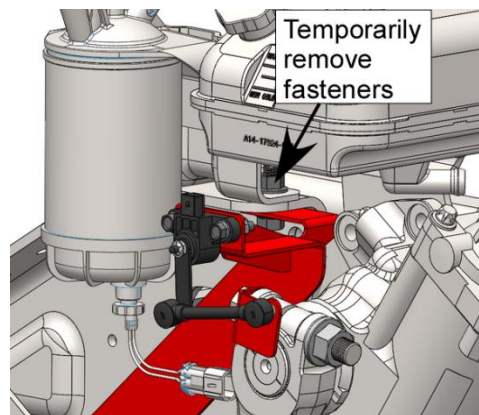

Figure 28. Steering Sensor Mount Installation.
3. Remove the bolt attaching the filter mount to the frame, as shown in **Figure 28.** Retain bolt and nut for reuse.
4. Install the Steering Sensor Bracket reusing the OEM fasteners and the 5/16"-18 fasteners as shown in **Figure 28.**